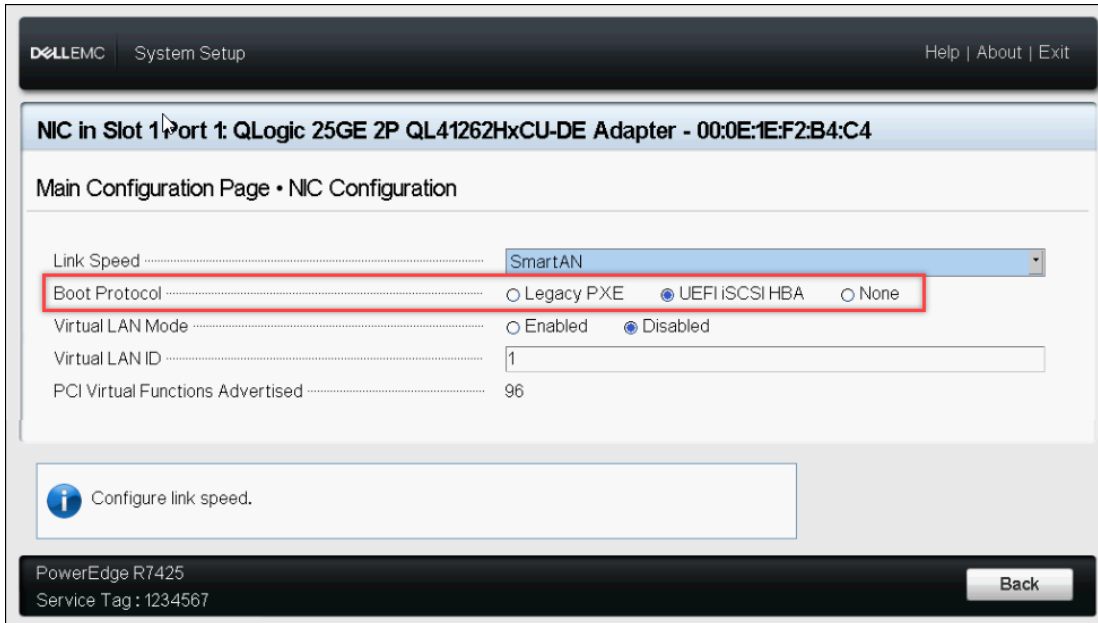

Figure 6-4. System Setup: NIC Configuration, Boot Protocol
1. On the NIC Configuration page (Figure 6-4), for the **Boot Protocol** option, select **UEFI iSCSI HBA** (requires NPAR mode).